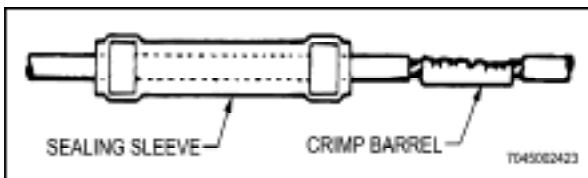

Figure 5-4 Correctly Installed Crimp Barrel
- i. Using appropriate crimping tool and die (Table 5-1) crimp splice to wire ends (Figure 5-4)